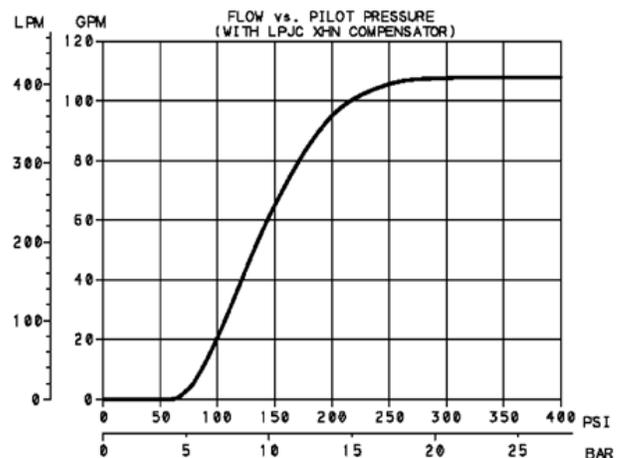

Figure 5
- To increase flow accuracy, an external modulating element (pressure compensator) can be used to maintain a constant pressure drop (200 psi is recommended) across the metering orifice, resulting in a constant output flow when varying inlet and load pressures are present. (See **Figure 5**)